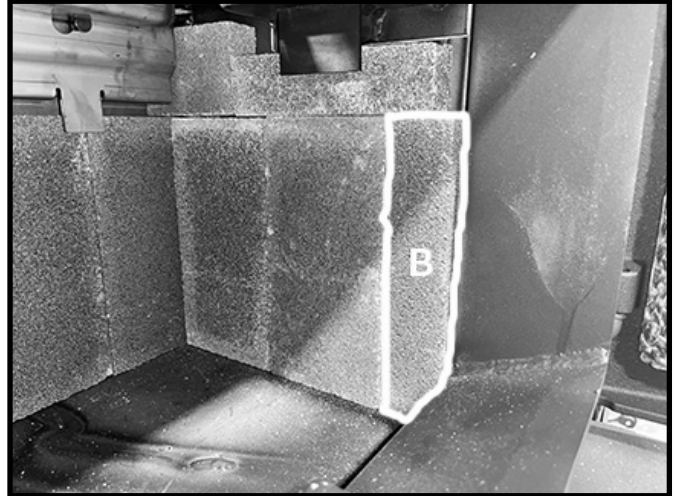

Figure 17. Front side wall firebricks in position.
6. Place a "B" firebrick under the "E" firebrick and against the side wall of the firebox Figure 17.